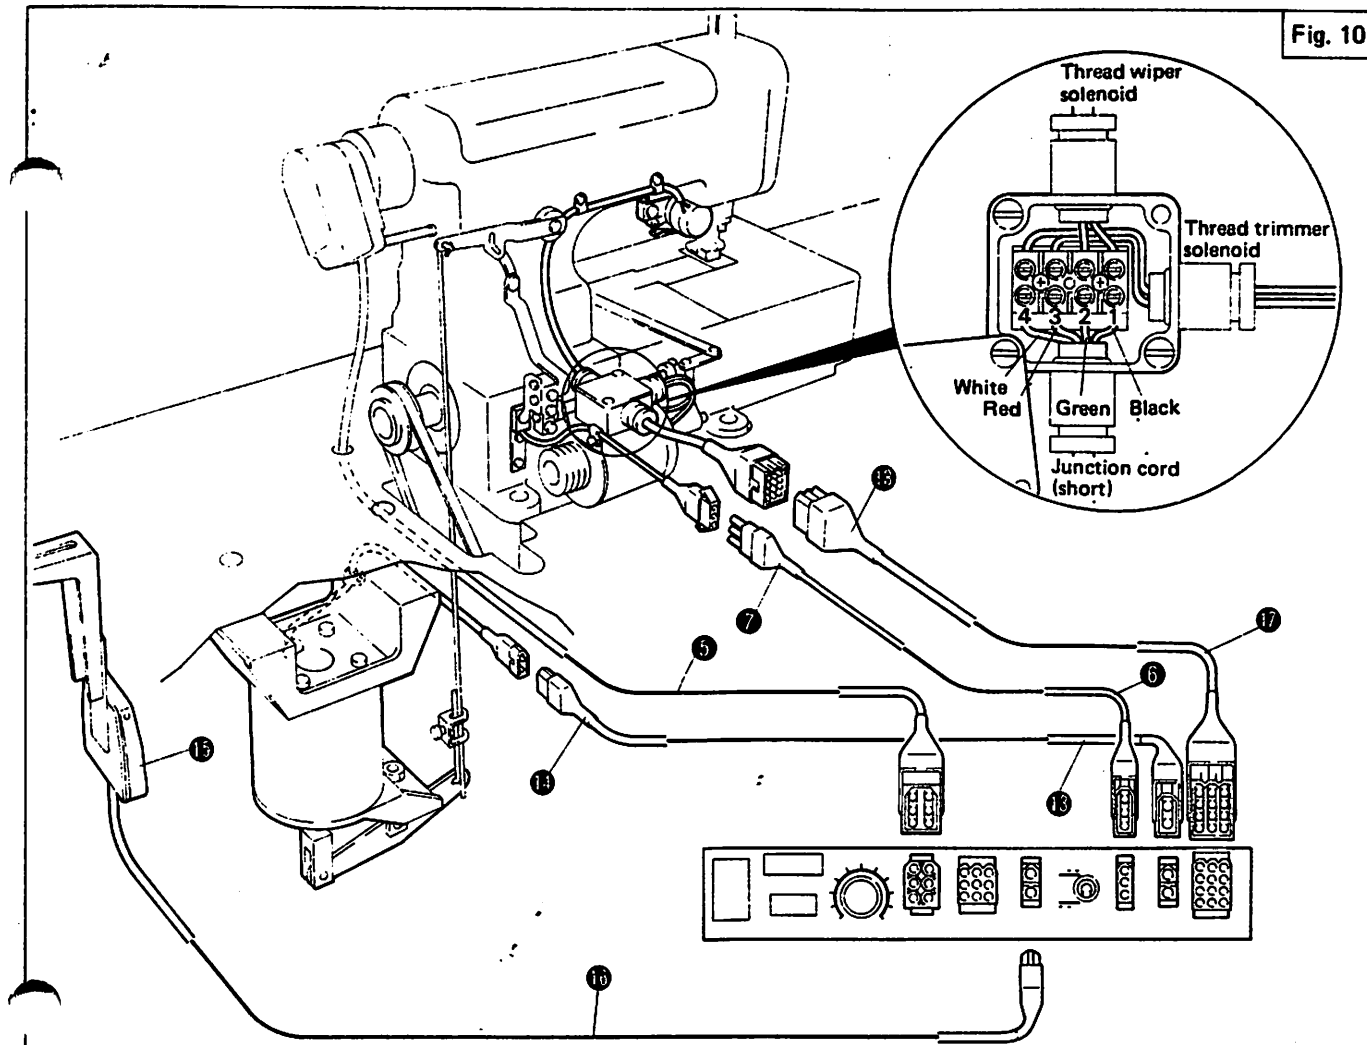

Fig. 10
To lift the presser foot without trimming the thread while the machine is stopped, press Presser Foot Lift Switch ⑮. (Refer to page 23. Fig. 10)